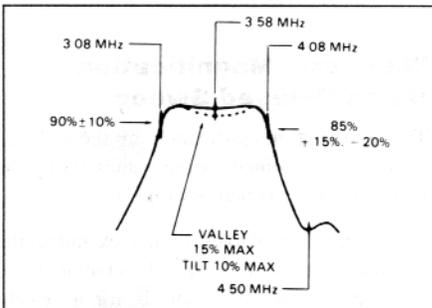

Fig. 42. Frequency response measurement.
(Refer to Figs. 42 and 43)
1. Refer to Fig. 42. Connect the audio or rf output of the sweep generator to the input